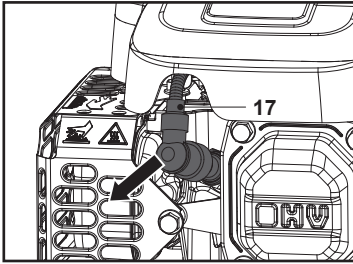

Fig. 24
1. Disconnect the spark plug connector (17) (Fig. 24).